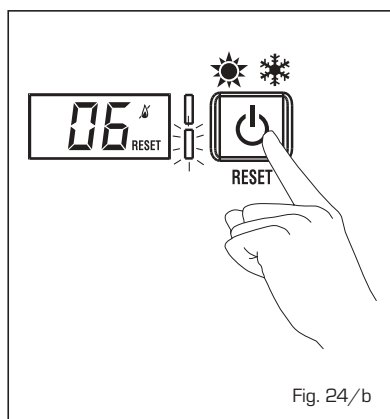

Fig. 24/b
- SAFETY THERMOSTAT ANOMALY "ALARM 07" (fig. 24/c)